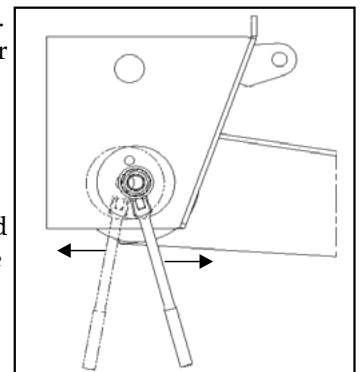

Figure 15.
3. Return to starting location. Insert a 1/2"-shank breaker bar into the square hole of the adjuster plate at the pivot connection (Fig 15).